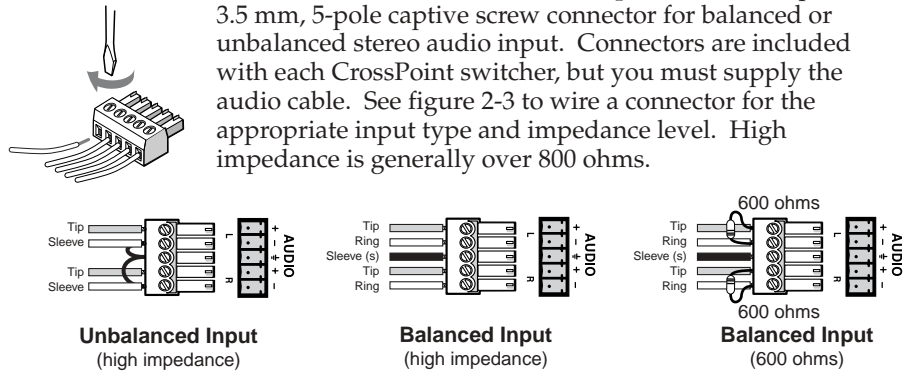

Figure 2-3 — Captive screw connector wiring for inputs
- ④ **Connections for balanced and unbalanced audio inputs** — Each input has a 3.5 mm, 5-pole captive screw connector for balanced or unbalanced stereo audio input. Connectors are included with each CrossPoint switcher, but you must supply the audio cable. See figure 2-3 to wire a connector for the appropriate input type and impedance level. High impedance is generally over 800 ohms.